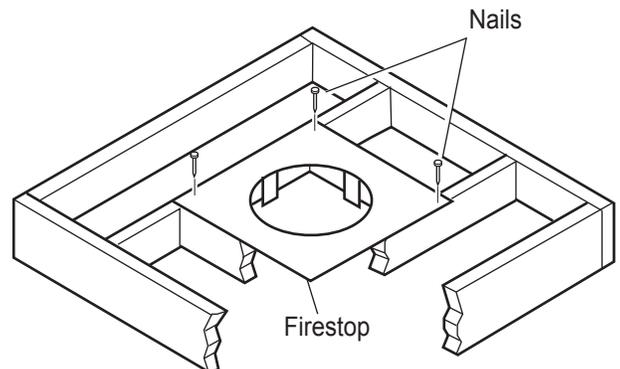
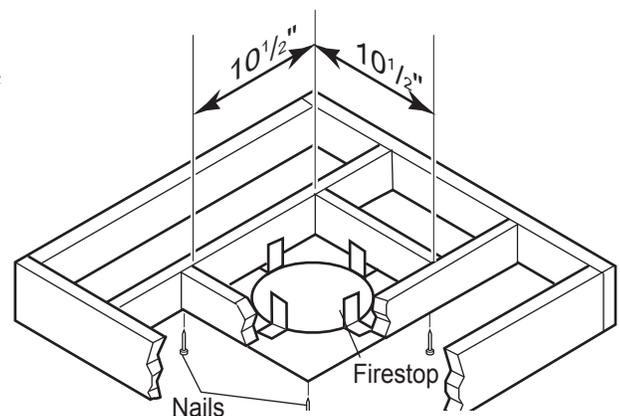

Figure 28- If area above is a room, install firestop above framed hole as shown
Figure 29 - If area above is not a room, install firestop below framed hole as shown
1. Cut a $10\frac{1}{2}$ " (267mm) square hole in the ceiling using the locating hole as a center point. The opening should be framed to $10\frac{1}{2}$ "x $10\frac{1}{2}$ " (267mm x 267mm) inside dimensions as shown in *Figure 12*, page 17 using framing lumber the same size as the ceiling joist. If the area above the ceiling is an insulated ceiling or a room, nail firestop from the top side. This prevents loose insulation from falling into the required clearance space. See *Figure 28*. Otherwise, install firestop below the framed hole. The firestop should be installed with no less than three nails per side. See *Figure 29*.